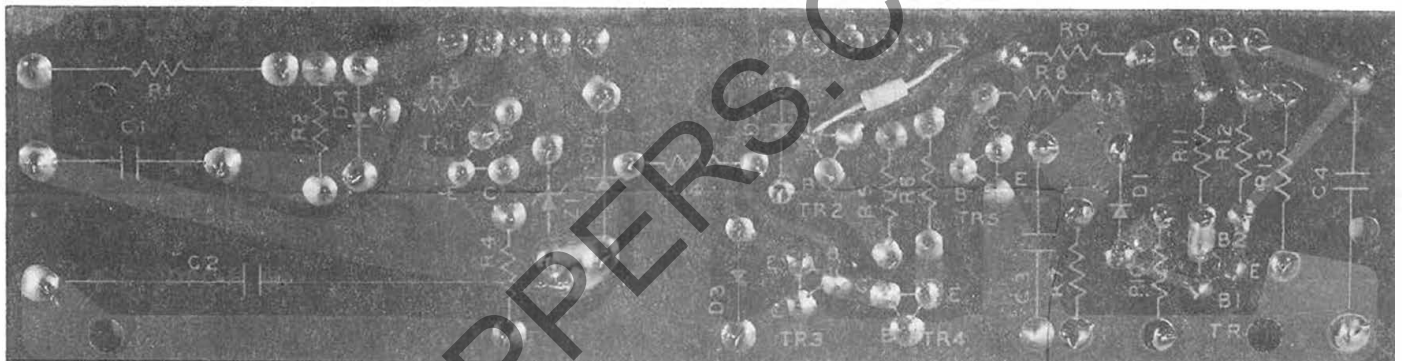

Figure 4
4. Connect and solder Diode, Part No. 76700-23, from Emitter to the Collector of Transistor TR-2 (Cathode to Collector) as shown in Figure 4.